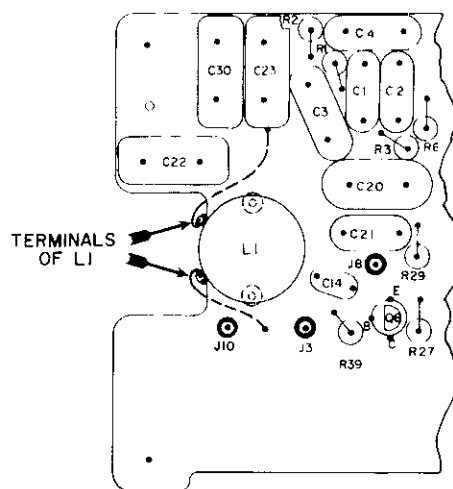

Fig. 2 - After Modification
4. Mount the new pot-core choke (19B204554-G1) in the eyelets so that the two terminals of the choke hang over the edge of the board. See Figure 2.